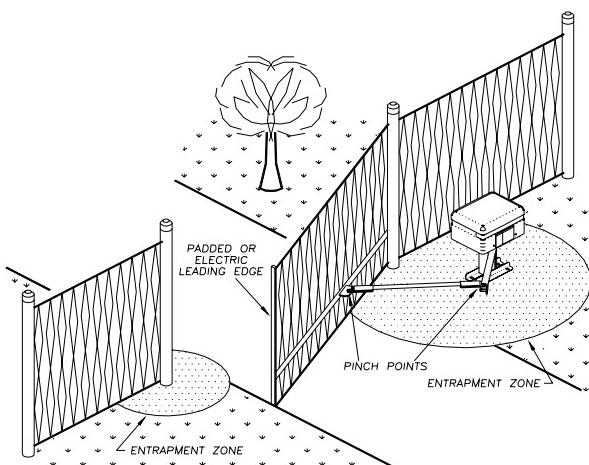

Figure 3: Entrapment Zones and Pinch
- Use the illustration at left (Figure 3) to minimize the risk of injury in your design of the swing gate operator system. IDENTIFY THE ENTRAPMENT ZONES AND PINCH POINT AREAS IN YOUR GATE. Design the gate installation to minimize the risk of entrapment in these areas. Install additional safety equipment such as four wire edges and photocells to further minimize risk. All entrapment zones are required to be protected.
- **Entrapment Zones:** Design in personal entrapment protection devices to protect people from entrapment in the zones shown in Figure 3 at left.
- **Pinch Points:** Use protective measures (guards, padded edges, etc.) to protect people from the pinch points shown in Figure 3 at left.
- SWING GATES HAVE THE POTENTIAL HAZARD OF HANDS AND FINGERS BEING PINCHED between the gate edge and the post to which the gate is mounted. It is recommended that the hinges be mounted so that this opening increases as the gate swings open. **PROTECT THIS "PINCH POINT" SO THIS HAZARD IS MINIMIZED.** See Figure 3.
- CONSIDER ALL OTHER "PINCH POINTS" IN YOUR DESIGN of the gate system. Observe the arm as it opens and the two arm pieces swing past each other. Use protective measures to reduce hazards at this location. Restrict access to the arm motion. See Figure 3.